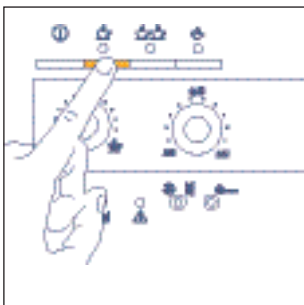
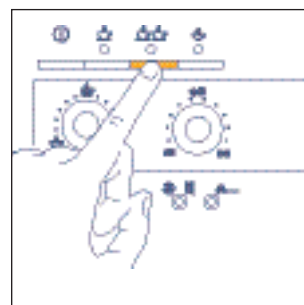

Fig.12
Fig. 13
- 5) Press the ☐ button (Fig. 12) to make one cup of coffee or the ☐☐ button (Fig. 13) to make 2 coffees. (At this point the machine grinds the beans, runs a short pre-infusion cycle, a pause and then completes the delivery. Once the desired quantity has been reached, the machine automatically stops delivering the coffee and discharges the grounds into the special container).
**NOTE 3:** while the machine is making the coffee, the delivery can be stopped at any time by pressing the ☐ (fig. 12) or ☐☐ (fig. 13) buttons, as previously selected.